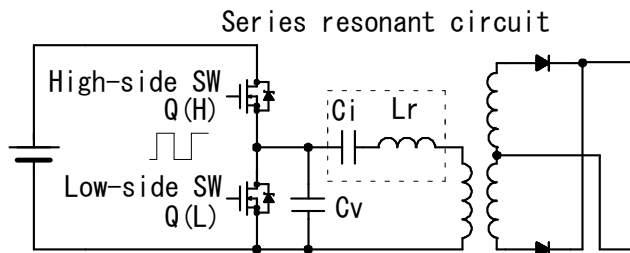

Figure 7-1 Principal of series resonant converter
Figure 7-1 depicts the principle of resonant converter. The Q(H) stands for High-side SW, the Q(L) stands for Low-side SW, the Ci stands for current resonant capacitor, and the Cv stands for voltage resonant capacitor. When the frequency is changed, the impedance of resonant circuit is changed as shown in Figure 7-2. Higher frequency area than the resonant frequency, fo, is inductance area, lower frequency area is capacitance area. Therefore, the resonant converter operates in inductance area due to soft-switching operation.